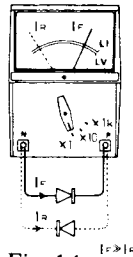

Fig. 14
- 4-1 The connections of Fig. 14 read  $I_F$  (forward current) or  $I_R$  (reverse current) on the LI scale provided. For the 1k range, the scale reads 0~150uA, for the X10 range 0~15mA, and for the X1 range 0~150mA.
it by the connections of Fig. 14 to measure  $I_F$ ; it is impossible to have light emitted. The 3-volt internal battery layout of the instrument effectively checks it on the X1 range. While light is being emitted, the LI scale reads the current  $I_F$ , and the LV scale the forward voltage  $V_F$ .